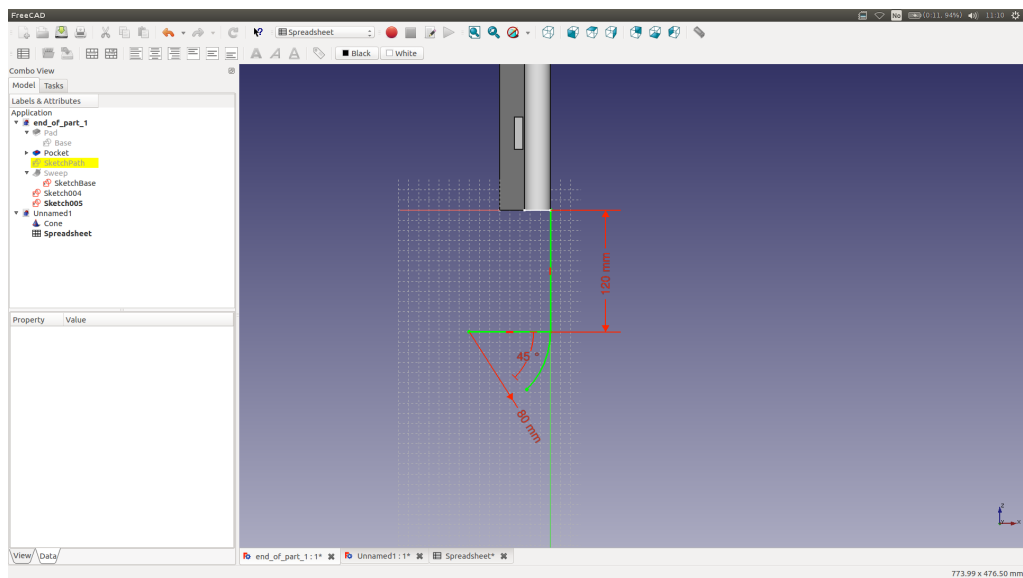

Figure 9
- We will extend the geometry to 3D using a more sophisticated tool. Create a new sketch in the XZ plane, i.e. normal to your previous sketch. Build a sketch that looks like Fig 9. Note that the horizontal line is a construction line to set the position of the circle center. Close the sketch. Rename the sketch as **SketchPath**.